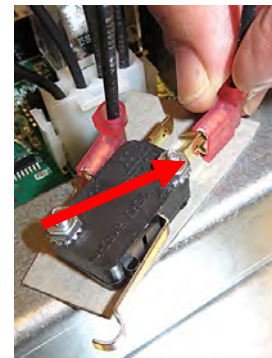

Figure 24
28. Connect pin-3 wire to the N/C position of the lower right switch (see Figure 24 and wiring diagram on last page).